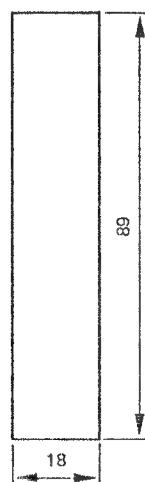

Fig 6.4.-2
- Cut out front panel according fig. 6.4.-2.
- Wire according fig. 6.4.-3.